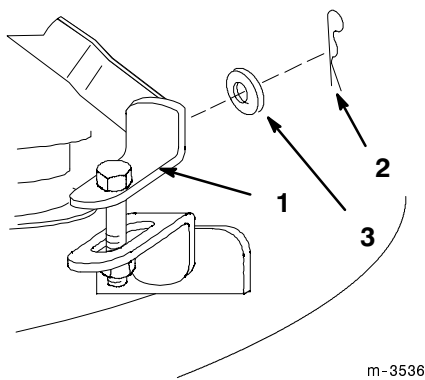

Figure 14
4. Remove 1-7/16" hairpin cotter and 3/8" washer from front adjustable link and remove from front lift arm (Fig. 14).